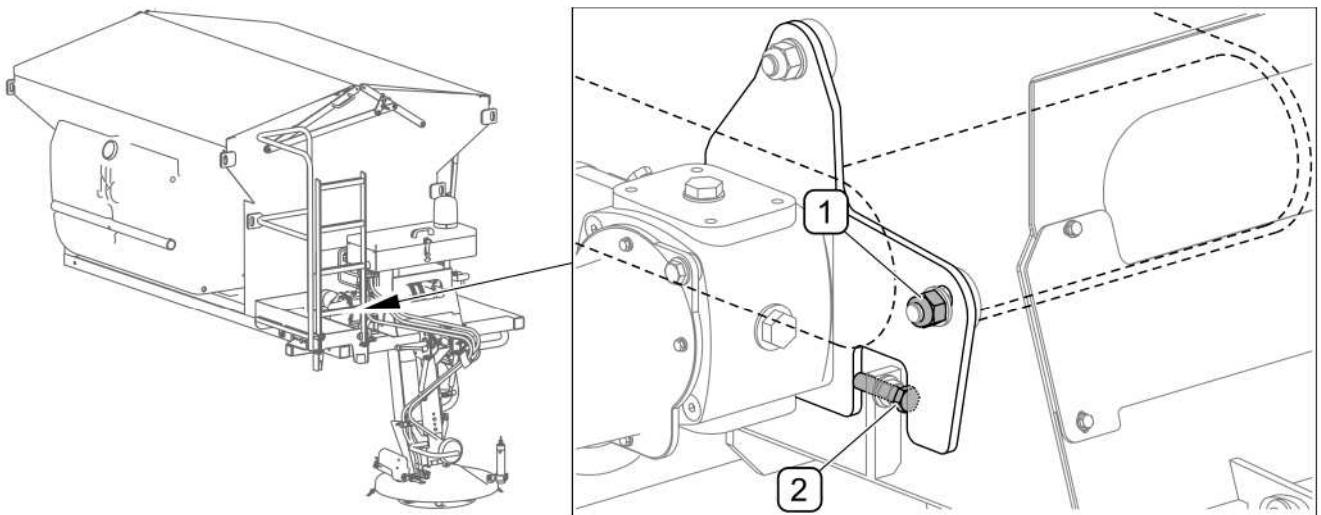

FIG. 5.5 Adjustment of drive roller
(1) - locking nut; (2) - adjusting screw
If the conveyor belt is shifted sideways to the edge of the conveyor drive roller (FIG. 5.5), make proper adjustment of the roller. The adjustment is made only on one side of the conveyor using bolt (2) by changing the position of the roller drive transmission bracket. Activate "UNLOADING" function in "COUNTERS" menu on the control panel. A detailed description can be found in section 4.9 UNLOADING Loosen nut (1) and position the belt in the middle of the roller by means of adjustment bolt (2). During the adjustment, make one turn of bolt (2) and wait for some time to see the effect of the adjustment. Repeat the activity until moving conveyor belt is positioned in the middle of the conveyor roller. After adjustment, disengage conveyor drive, tighten nut (1) and switch off "UNLOADING" function on the control panel.